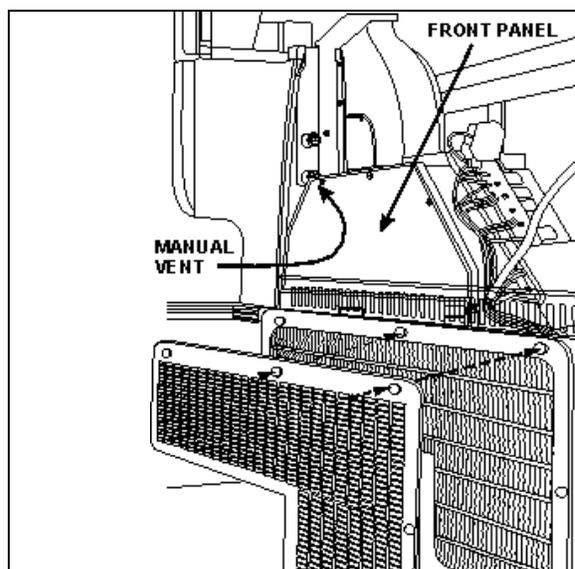
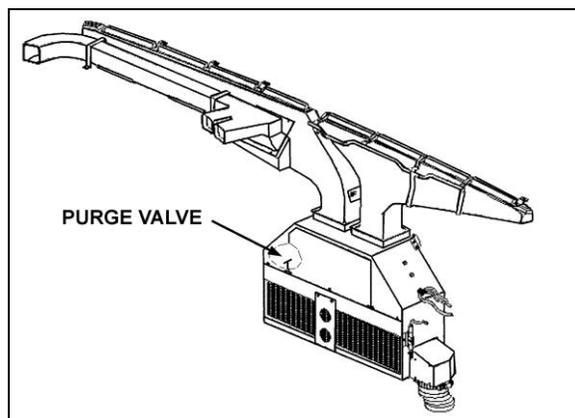
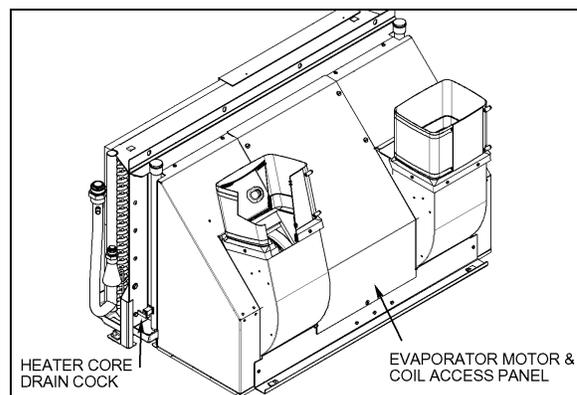
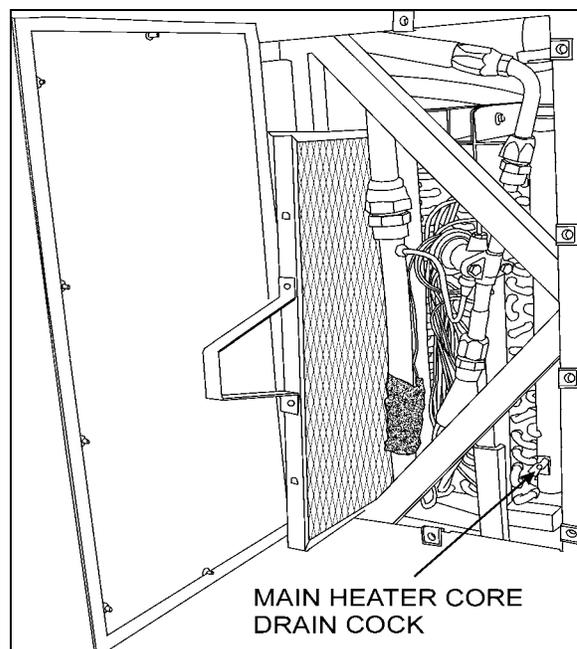

FIGURE 69: DRIVER'S HVAC/DEFROST UNIT
FIGURE 70: DRIVER'S UNIT AIR MIXING BOX 22171PV
FIGURE 75: HEATER CORE DRAIN COCK
FIGURE 76: EVAPORATOR COMPARTMENT
Fresh air is taken from behind the R.H. side headlights assembly (H3 series) or from a plenum underneath the front service compartment (X3 Series) and enters the mixing box through a ON/OFF damper. Return air is taken through the right console into the mixing box (Figure 70). Mixed air goes through cooling and heating coils, fans and discharge ducts.
4. From inside of vehicle, remove the two finishing panels in front of unit. Remove the three screws fixing the unit front panel. Open the purge valve located inside the driver's unit (Figure 70). If present, open the manual vent located inside the HVAC unit, on the driver's side (Figure 69) to ensure an efficient draining.
4. Open drain cock in bottom of heater core (Figure 75 & Figure 76), you can unfasten a hose connection on top of heater core (Figure 76) in order to allow air to enter while draining. The main heater core drain cock is located in the evaporator compartment. To access the valve on X Series vehicles, open baggage compartment door located in front of the evaporator compartment (L.H. side). Open access panel by turning the three quarter-turn screws.
Whenever the heating system has been drained and refilled, or the system has run low on coolant and coolant has been added, it is necessary to bleed air from heating system. Locate the purge valve illustrated in Figure 70 & Figure 75, and open them momentarily until no air escapes from the lines. If present, open the manual vent located inside the HVAC unit, on the driver's side (Figure 69).